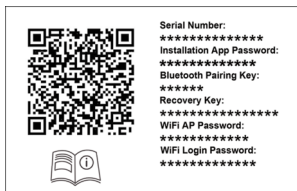

Figure 1: Example of the password sticker in the Safety Guide.
- a) Establishing a Bluetooth connection with the Wallbox. Please scan the multifunctional QR code with individual access information on the **password sticker in the Safety Guide** (see Figure 1 below for an example of the QR code)
8. Optional: Establishing the connection to the My BMW App. To establish the connection, please use the multifunctional QR code with individual access information on the **password sticker in the Safety Guide** (see Figure 1 below for an example of the QR code)